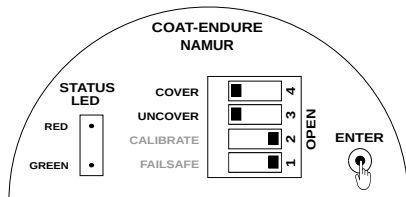

Figure 62: Setting of Low Current Configuration
- Press and Hold the ENTER key, RED Status LED will start blinking as per Figure 62.